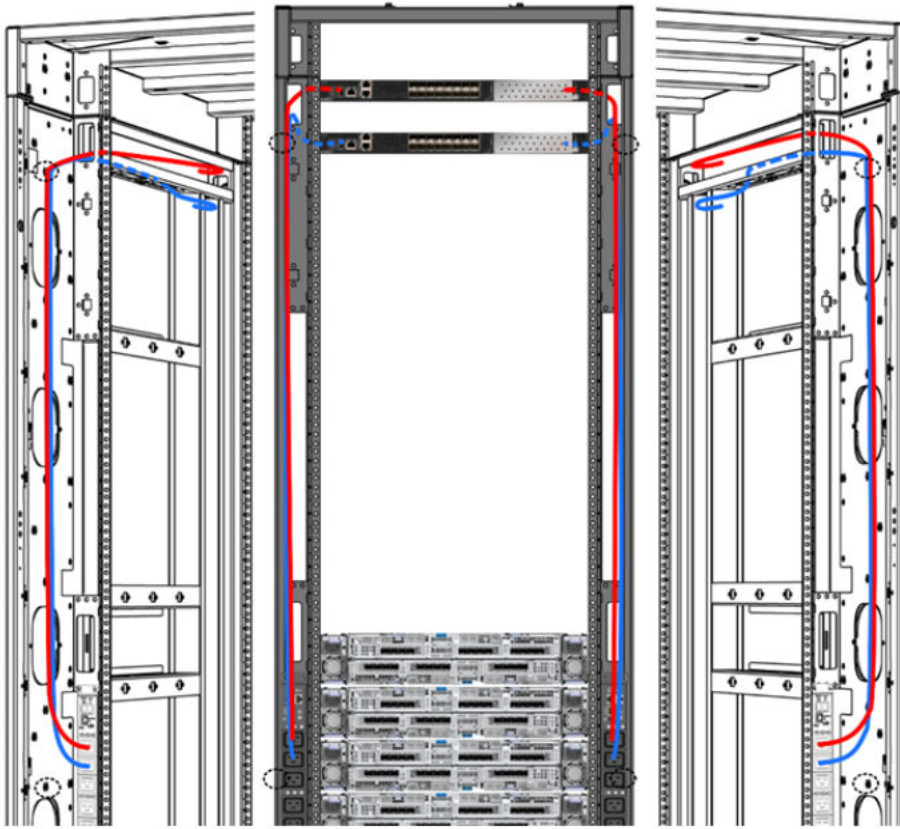

Figure 256. Power cable routes for SAN32C-6 switches (includes for optional second PSU)
1. At the rear of the rack, route a power cable from the upper outlet of the left PDU, up the rack, through the upper left cableway of the rack, to the front of the rack where the switches will be installed. If a second power supply is installed in the switch, also, route a second power cable from the upper outlet of the right PDU, through the upper right cableway of the rack, to the front of the rack where the switches will be installed. Figure 256 on page 341 shows suitable routes. Do not plug the connectors into the outlets yet.